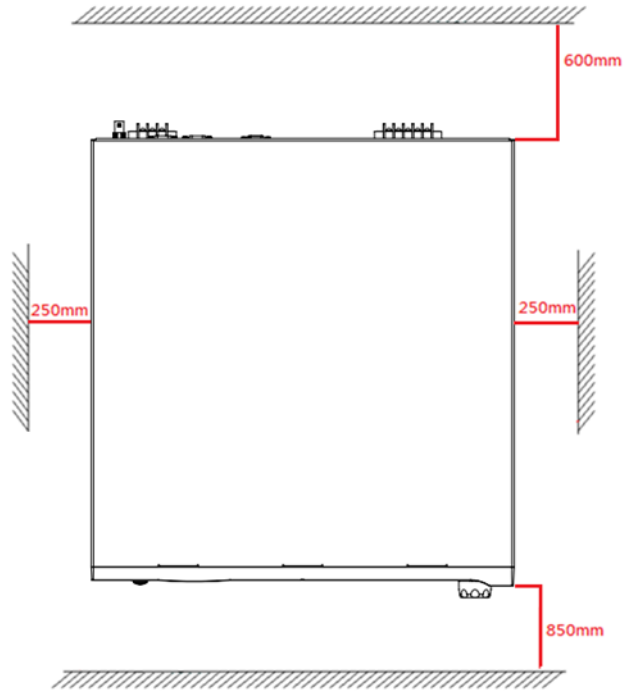

Figure 2.1 The required space for the device.
2. Leave sufficient space around the device for ventilation and maintenance (refer to Figure 2.1). Do not block the cooling fan opening in case of internal temperature getting too high and having bad impact on product lifespan.